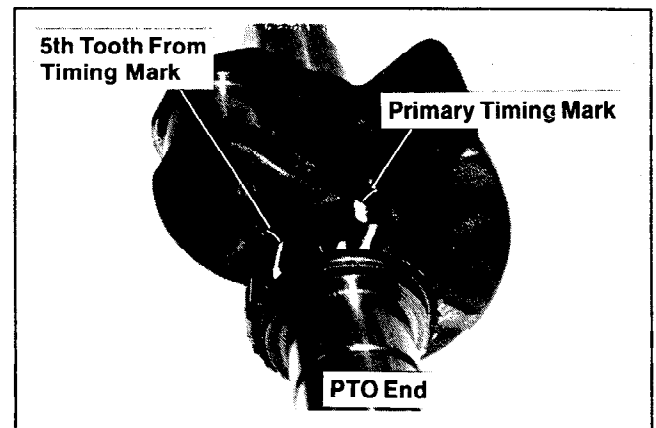

Figure 12-18. Marking Tooth On Crankshaft Gear.
Crankshaft - Locate the primary timing mark on crankshaft. While looking at the PTO end of crankshaft, start with the tooth directly below timing mark and count five (5) teeth in a **counterclockwise** direction. Mark the fifth tooth. Refer to Figure 12-18.